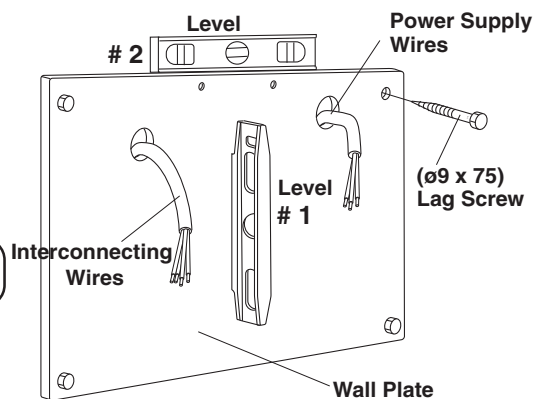

Fig.3-1 Wall Plate Installation
5. Hold the plate firmly against the wall, place a level across the front face. (#1 position in **Fig.3-1**)
6. Place a level across top edge of wall plate, level and tighten lag screws securely. (#2 position in **Fig.3-1**)